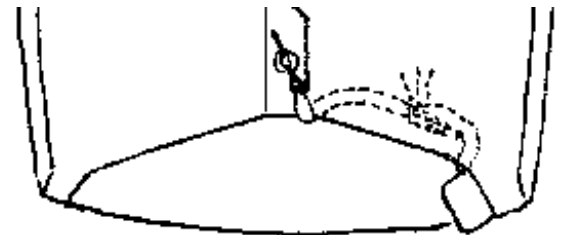

Figure 2-27
Step 31 Tuck the slack in the tape under the right side flap and mate the Velcro on the handle to the Velcro under the protective cover on the right side of the bottom flap as shown in *Figure 2-27*.